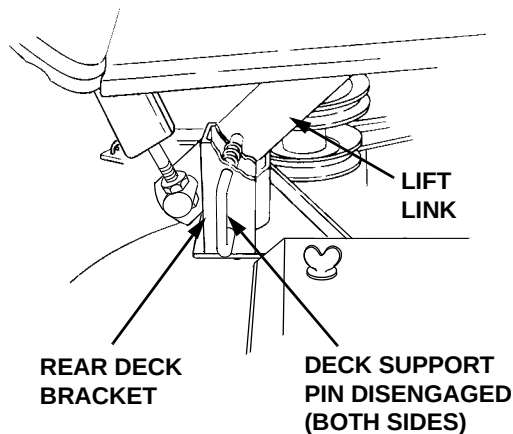

Figure 57
11. Pull the deck support pins outward, turn downward and release so both spring-loaded pins are held in the disengaged position against the outer surface of the deck brackets (See Figure 57).